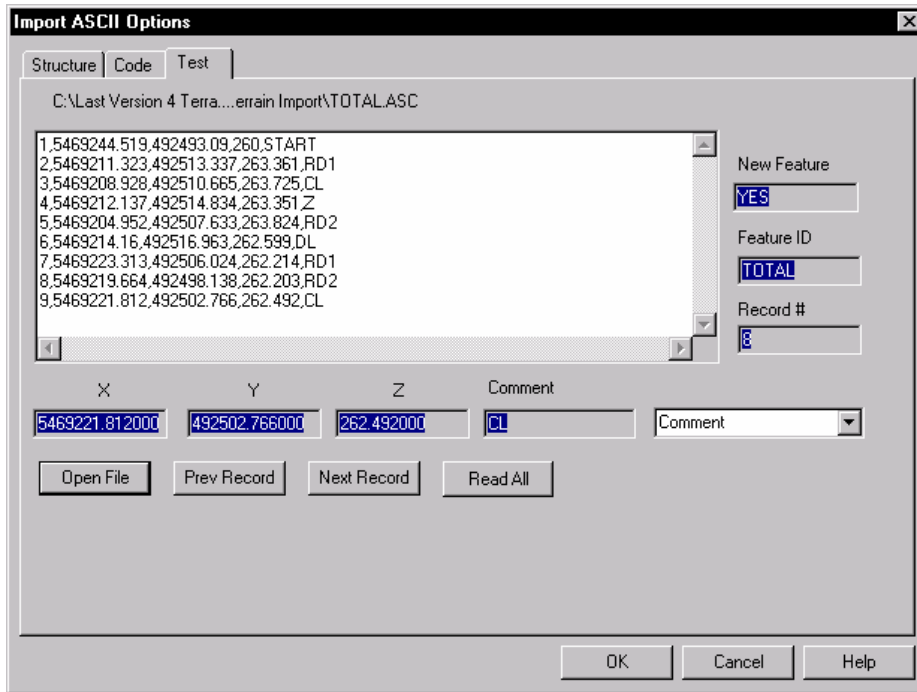

Figure 5.6: Import ASCII Options Dialog – Test Tab
15. To test the specification, press the *Test* Tab to open Import ASCII Options dialog box as shown in Figure 5.6.